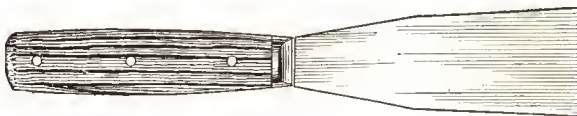

FIG. 45
**Putty Knife:** Figure 45. A fairly flexible, flat steel blade  $1\frac{1}{4}$  inches wide. Used for glazing—that is, placing putty on to window sash to hold the glass in place. Also a general utility tool used for cleaning and scraping off paint, dirt, etc. on all work.